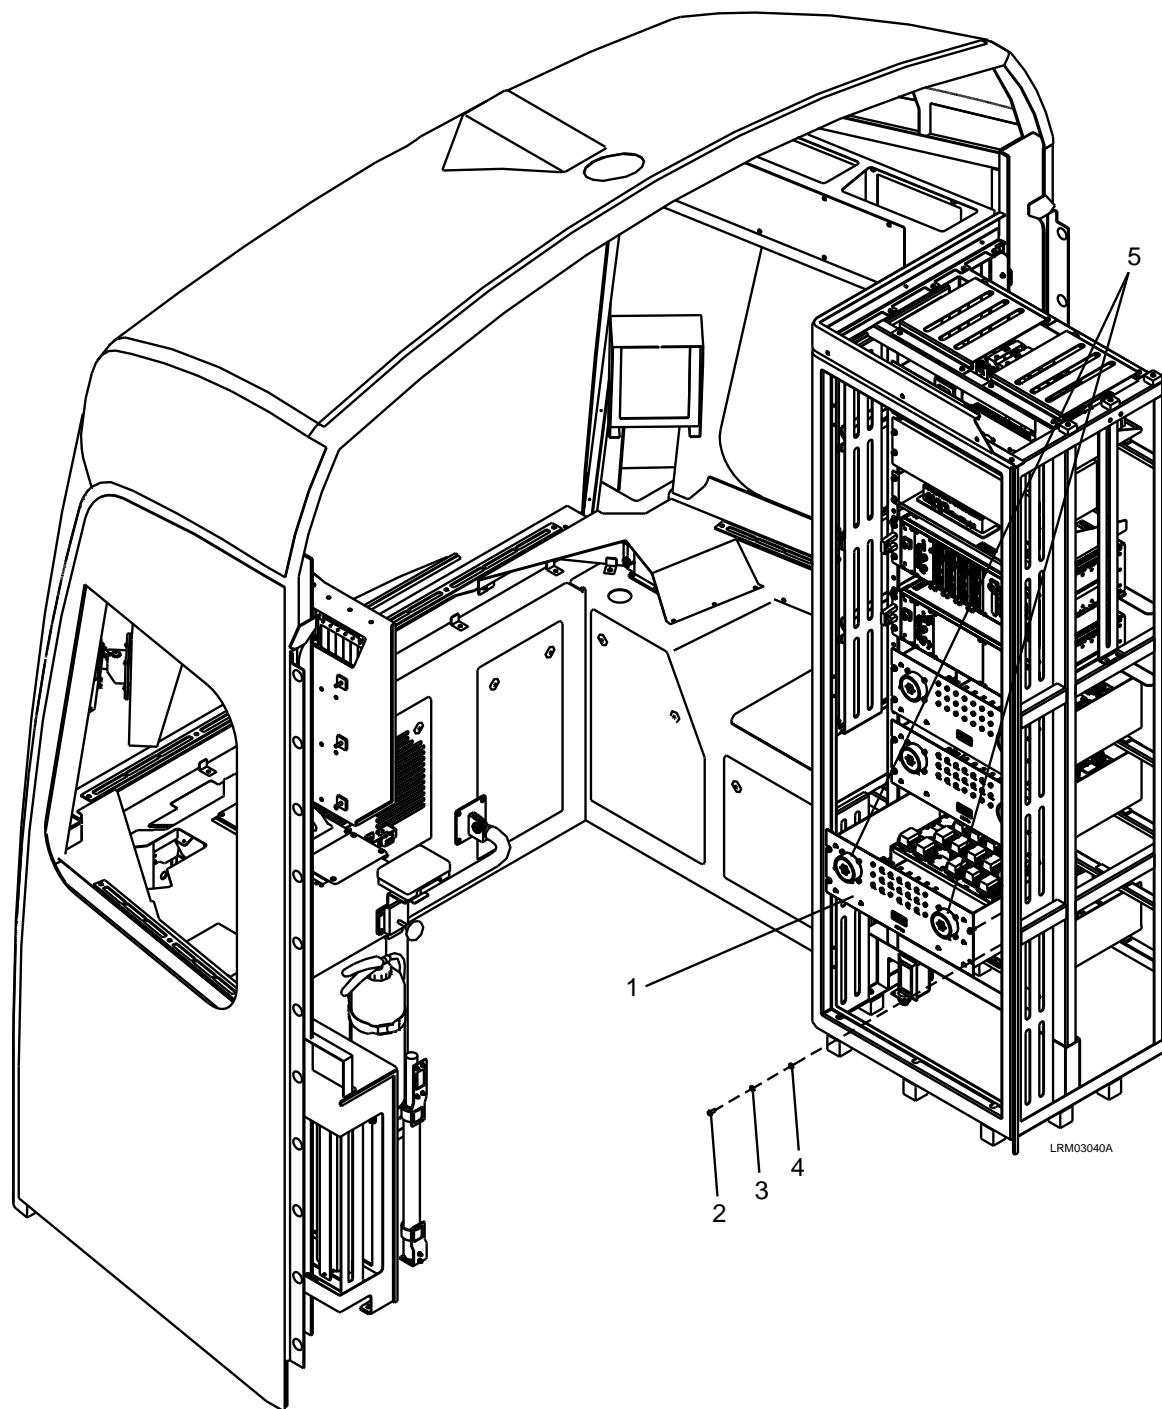

Figure 7-34: CRP8A Panel
2. Disconnect the electrical connectors (5) to the CRP8A Panel (1). See Figure 7-34.
3. Remove the four M6 x 16 screws (2), M6 lock washers (3), and M6 plain washers (4).
4. Carefully remove the CRP8A Panel (1).